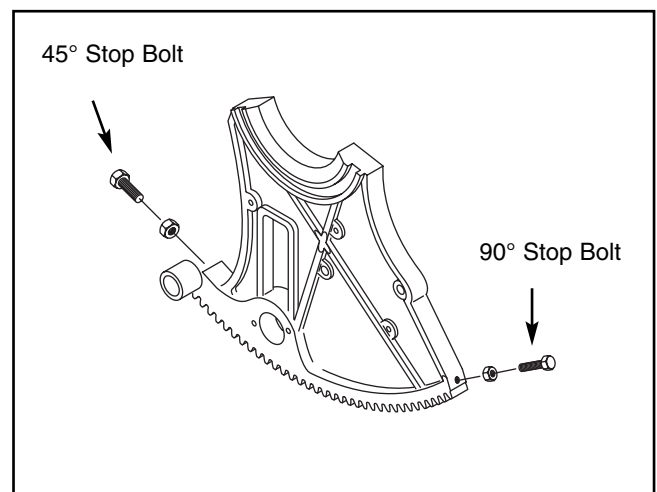

Figure 20. 90° and 45° stop bolts.
3. Adjust the handwheel until the square is flush with the blade. Loosen the tilt indicator arrow, set to zero, and retighten. Loosen and adjust the stop bolt on the left side of the front trunnion to allow a 90° stop point. See **Figure 20**.
6. Repeat **Steps 1-6** for setting the blade to 45° and adjust the 45° stop bolt on the right side of the front trunnion. See **Figure 20**. Use the 45° side of a combo square or a bevel gauge set at 45°.